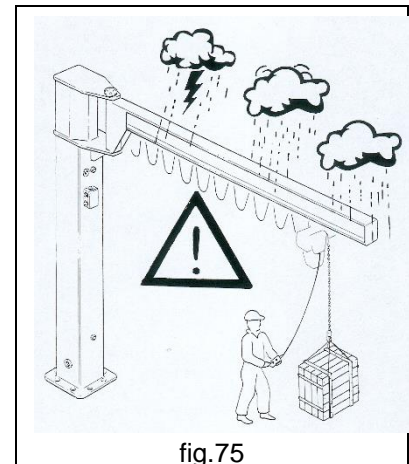

fig.75
- **NEVER** use the crane in unforeseen atmospheric conditions or, if installed outside, in hostile, unfavourable and/or dangerous atmospheric conditions (strong wind, heavy rain, etc.) - (fig.75)